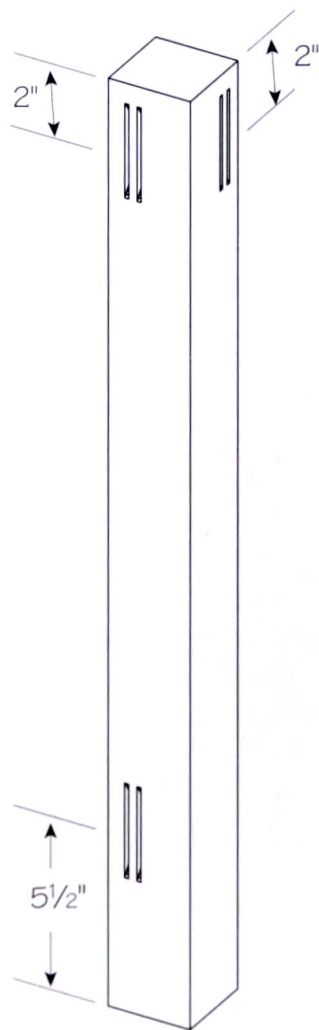

Figure 1
1. Prepare the stock for the legs (B), and cut them to length using a drop stop (see Drop Stops, Jigs, and Fixtures on page 12).
2. Prepare the stock for the aprons (C and D) and the stretchers (E). Make these as thick as your material allows, then joint, rip, and cut them to length.
4. Mark the outsides of the legs, and determine their positions around the table. On both inside faces of each leg, draw a line 2" from the top end. On the inside face that joins a short apron (D), draw a line $5\frac{1}{2}$ " from the bottom of each leg (see figure 1). Those marks are the centerlines for cutting biscuit slots in the legs. Move the fence on the biscuit jointer $\frac{1}{4}$ " farther from the blade for these leg slots. If you cut two slots in the apron ends, as described in step 3, set the fence at $\frac{1}{2}$ " and $\frac{7}{8}$ ". Cut the slots on the inside faces of the legs, with the outside faces against the fence.